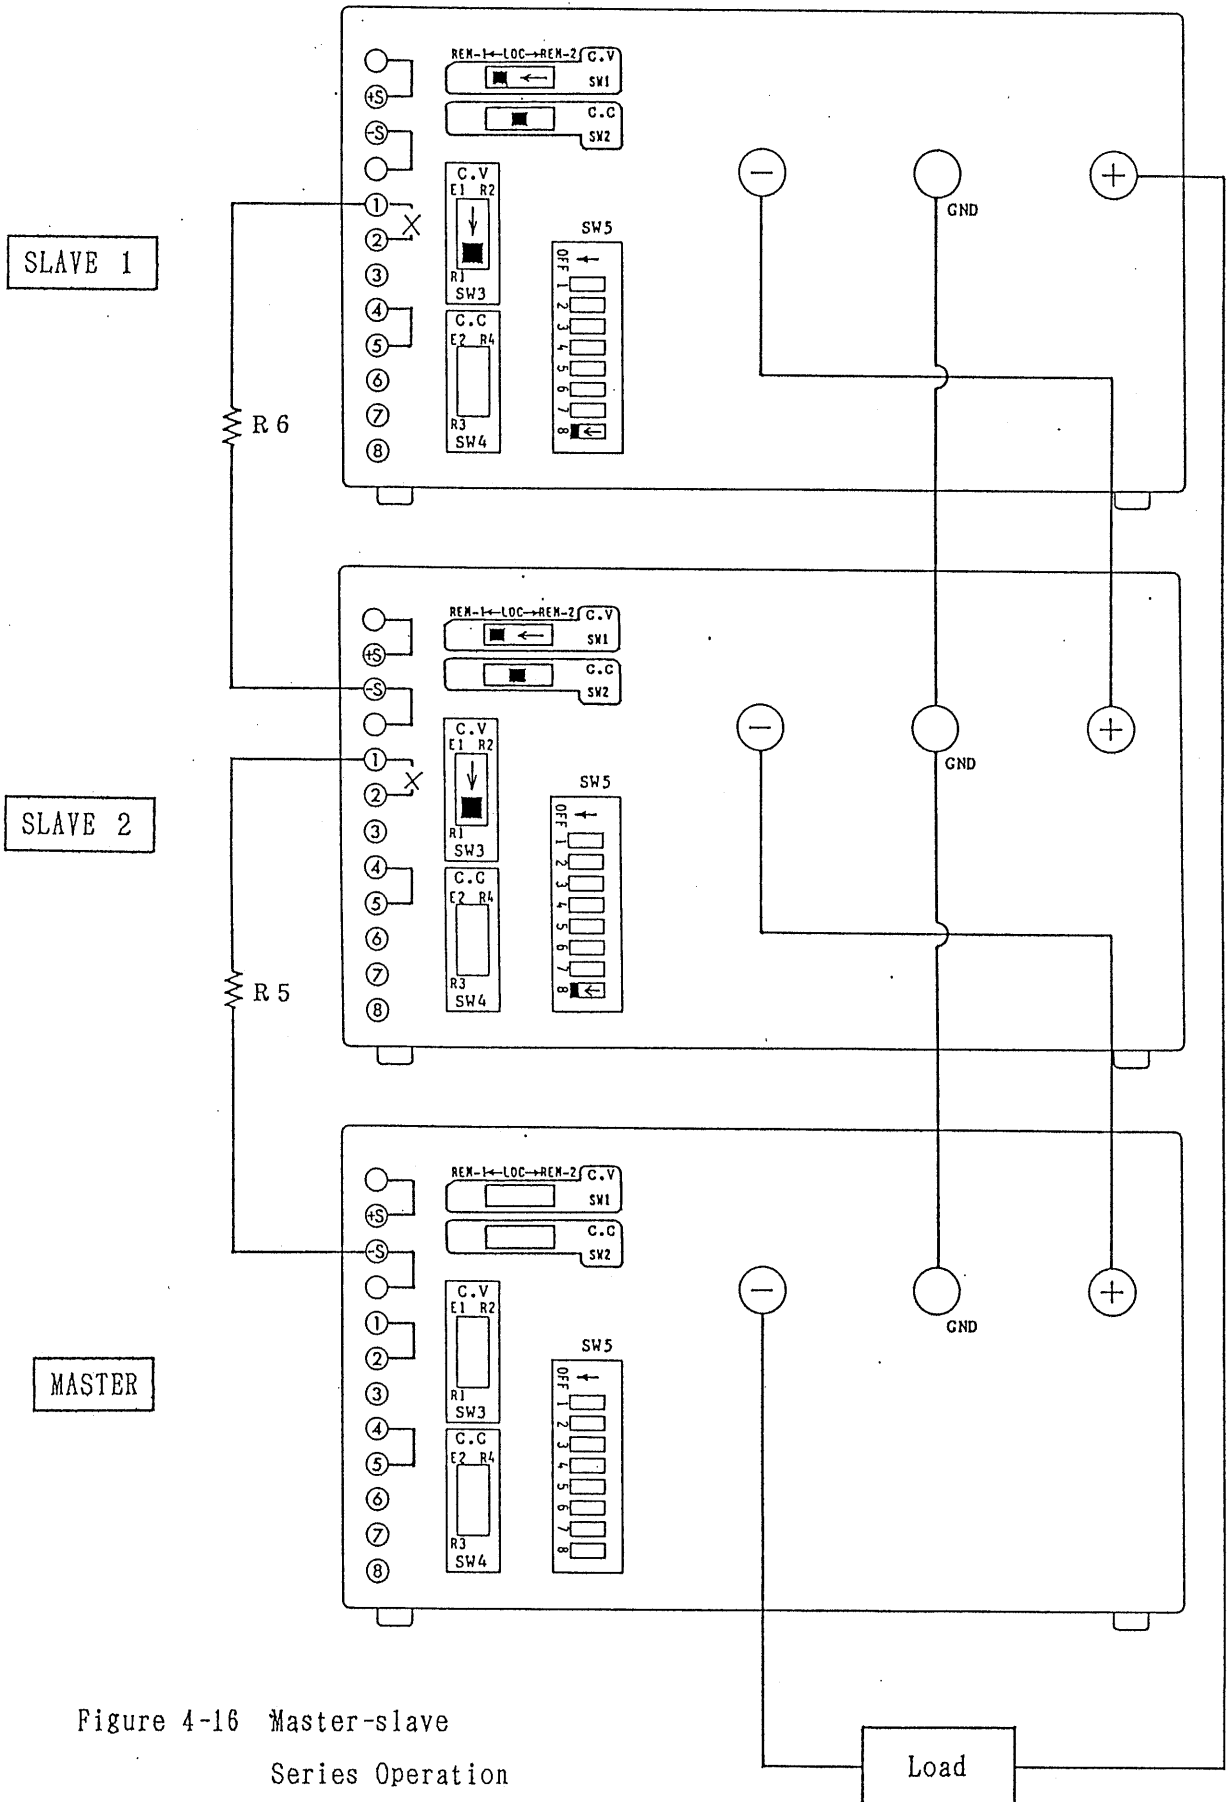

Figure 4-16 Master-slave
- (4) Connect in series the outputs of all units.
- (5) Connect together the GND terminals of all units, and connect it to a line of the voltage you may require.
- (6) Turn fully clockwise the current setting knob of each slave unit.
- (7) Throw the SW1 switch of the rear panel of each slave unit to the REM-1 position.
- (8) Throw the SW3 switch of the rear panel of each slave unit to the R1 position.
- (9) Set the 8th element of SW5 of the rear panel to the OFF state.
- (10) Regarding the switches for which no settings are specified in Figure 4-16, set them to the standard states as shown in Figure 2-25 (See Section 2.4.) or to appropriate states for respective modes (See Sections 4.1 through 4.11.).